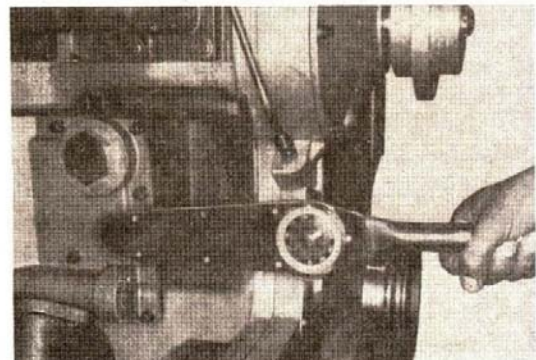

Fig. 14-93. Tighten the alternator bracket
4. Install the alternator mounting bracket to the block. Make sure that the tapped hole is toward the front of the engine. Tighten the capscrews to 30 to 35 ft-lbs (41 to 47 Nom) torque. Fig. 14-93.